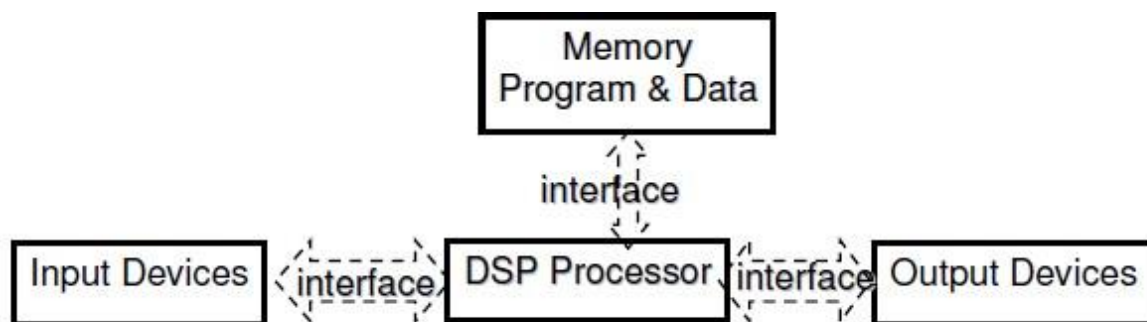

Fig. 7.1: DSP system with interfacing
- DSP with interface is shown in fig. 7.1.